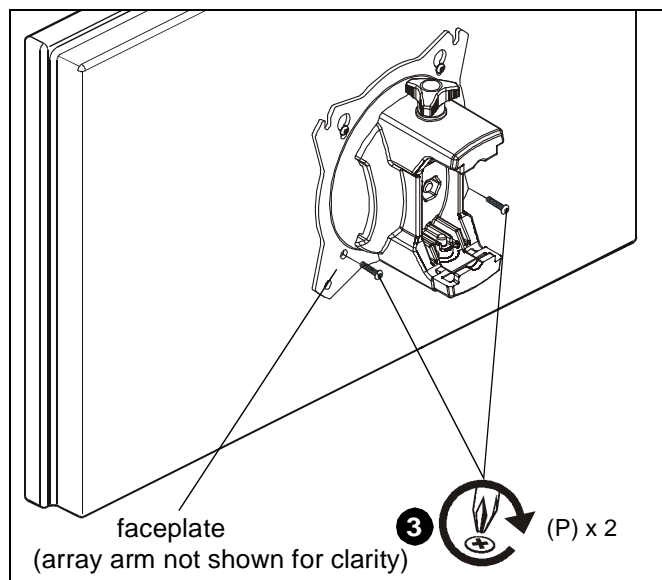

Figure 15
3. Using Phillips screwdriver, install two M4x12 mm Phillips pan machine screws (P) through the *lower* mounting holes on faceplate into the display. (See Figure 15)